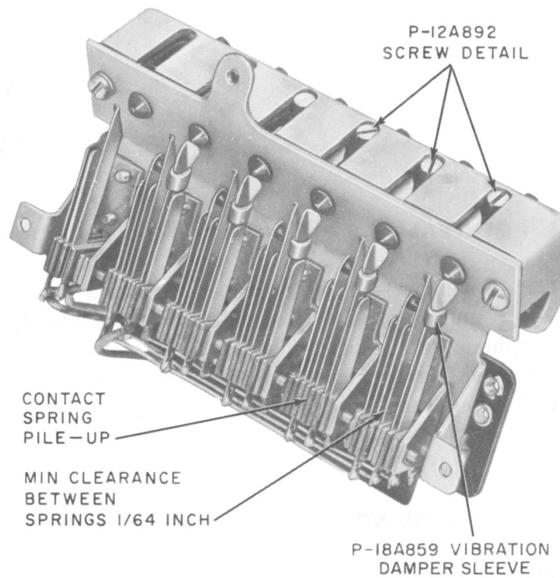

Fig. 3—589-Type Key, Bottom View
- (b) Replacing loose or missing damper studs with P-18A859 vibration damper sleeves (Fig. 3). Later 589-type keys do not require this vibration damper.
2.10 Contact follow and separation is obtained by using a 363 tool at a point adjacent to contact spring pile-up (Fig. 3). When adjusting springs:
- (a) There should be a minimum spring clearance of 1/64-inch between contact springs and those parts of the key which do not make contact with springs (Fig. 3).